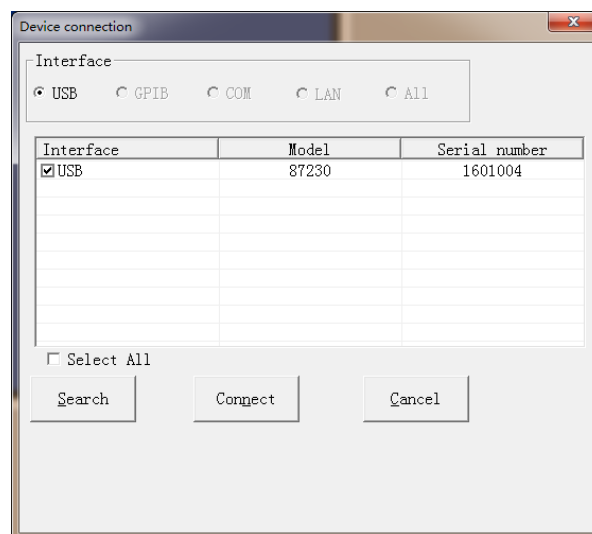

Figure 4.3 Connecting Device Window
**Step 1** Connect the USB power sensor to the computer, open the power measurement virtual panel, select the USB device to be connected in the "Instrument Connection" window popped up by the system, and click the "Connect" button, as shown in Figure 4.3, then the measurement process normally operates;